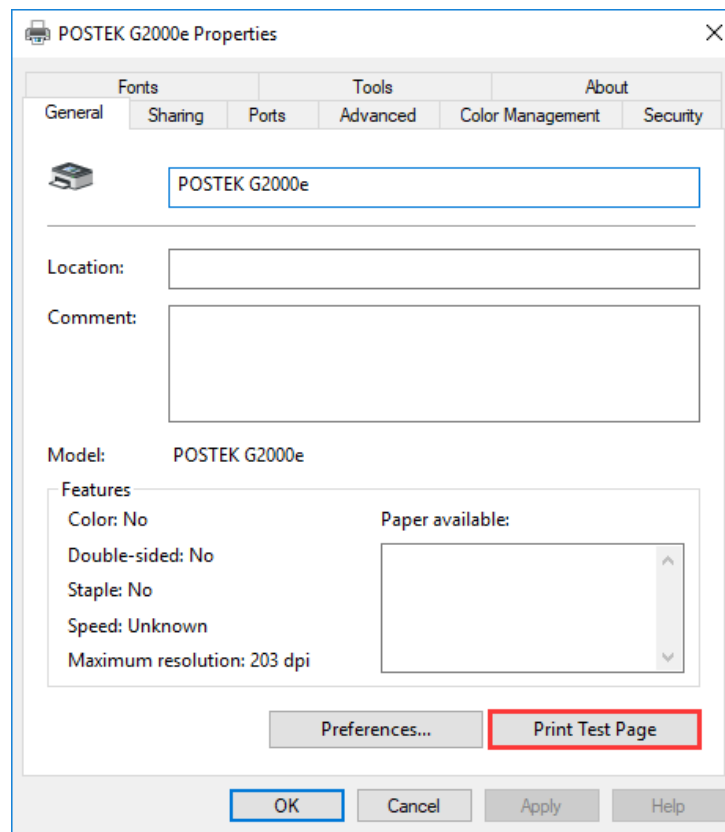

Figure 2-36 Print Test Page
11. Print a test page to see whether the printer is connected properly. As shown in Figure 2-36.